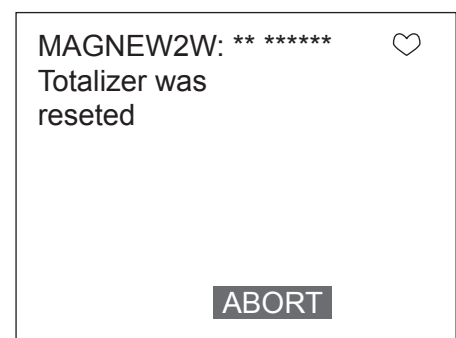

Figure 7-34
3. After pressing F4 (ENTER), Figure 7-34 will then be displayed. Figure 7-34 shows that the totalized value has been reset. After resetting, display will automatically return back to the previous display in 3 sec.